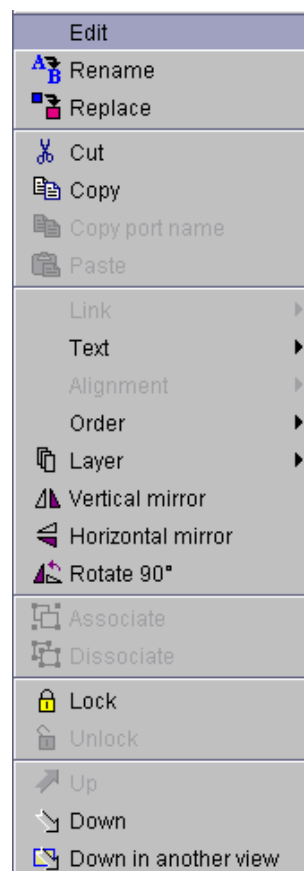

Figure 135 : Architecture – Contextual menu
- ♦ Right-click display Contextual-Menu (Figure 135) for Edition and Navigation :